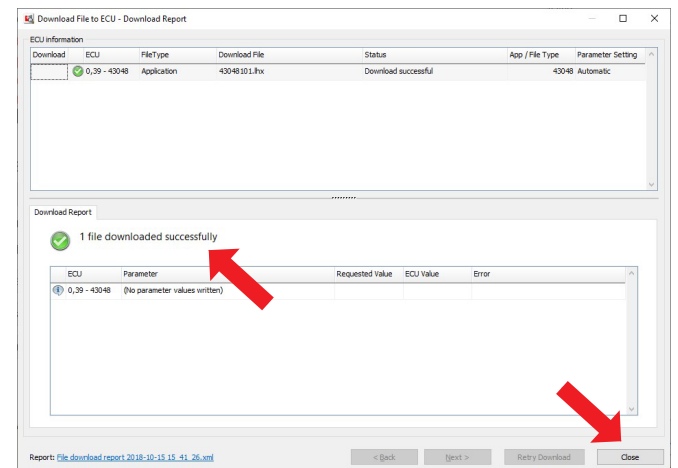

Figure 28. Download Successful Screen
8. Verify that the download was successful and click "Close" button (Figure 28).